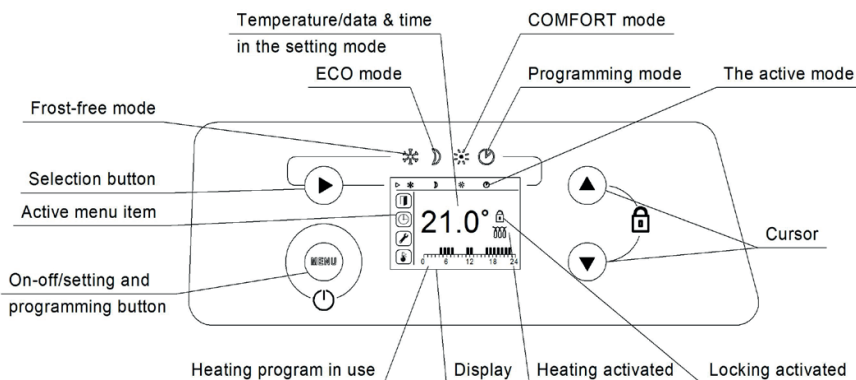

Fig. 6
5.7 Plug the power cord of the convector into a power outlet. The display on the control panel will light up (Fig. 6), the current time will be displayed. The convector is ready for operation.